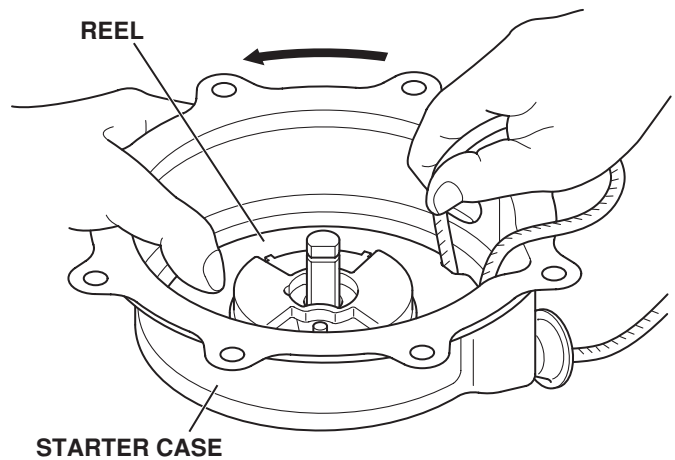

Fig. 11-6
- (3) Before putting the reel in the starter case, wind the starter rope in the arrowhead direction as shown in Fig. 11-6, and at 2.5 windings take out the rope from the reel notch. Set the reel hook to the inner end of the spring, and put the reel in the starter case. (At this time, confirm that the reel hook is duly set to the spring.)
Then, hold the starter rope as shown in Fig. 11-6, and turn the reel 4 times in the arrowhead direction. When wound up, firmly press the reel not to allow reverse turn, and pull the starting knob. Then, pull out from the starter case the starter rope utilized for winding, and slowly return the starting knob.